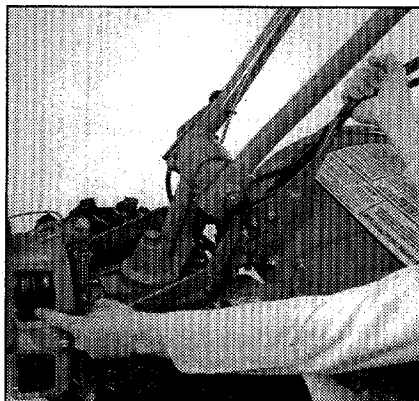

Figure 4-12: High range to low range. Shows moving belt from top-front groove onto top-rear pulley groove.
3. Stand on *left side* of tiller. Use your right hand to hold the Wheels/Tines/PTO Drive Lever up into REVERSE position. Use your left hand to move the belt off top-front engine pulley groove to top-rear engine pulley groove (Figure 4-12).